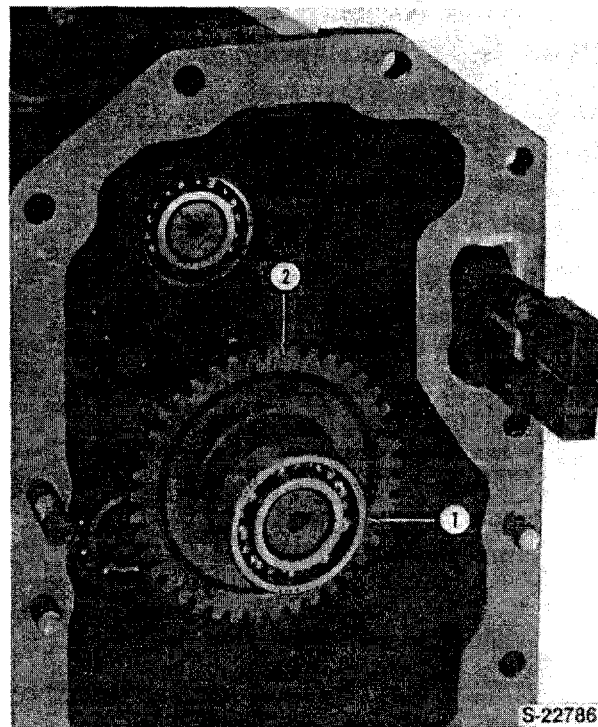

Figure 22
1. Remove the bearing (1) and gear (2), Figure 22.